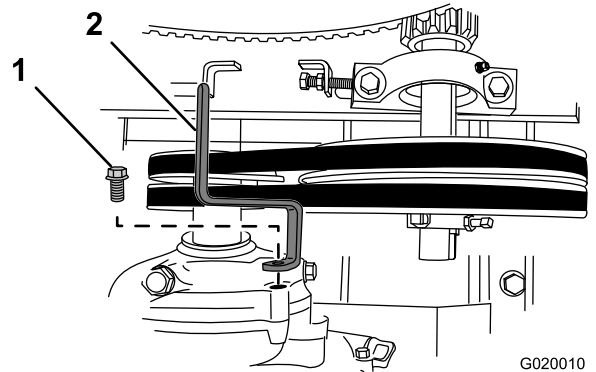

Figure 58
3. Remove the bolt that secures the belt guide to the engine, and remove the belt guide (Figure 58).
7. Loosely secure the belt guide to the engine (Figure 58) with the bolt that was removed in step 3 of Removing the Belts \(page 34\).